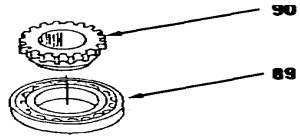

Figure 14-63.
- 44. Using suitable press, press bearing (89) from gear (90, Figure 14-63).